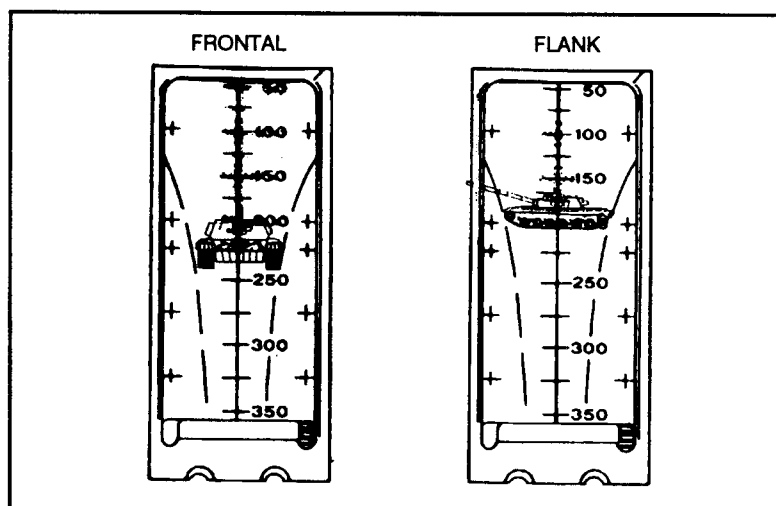
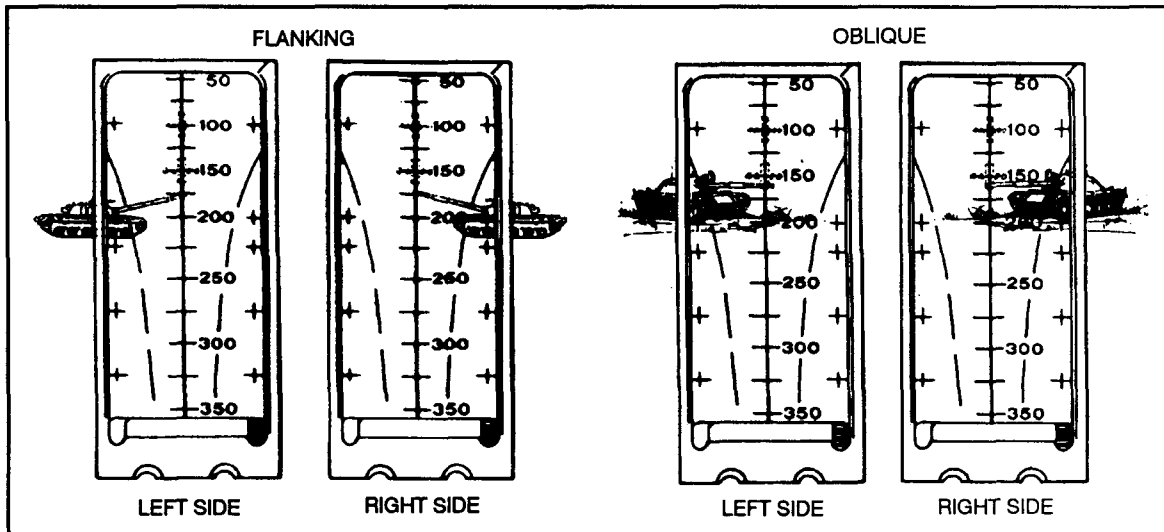
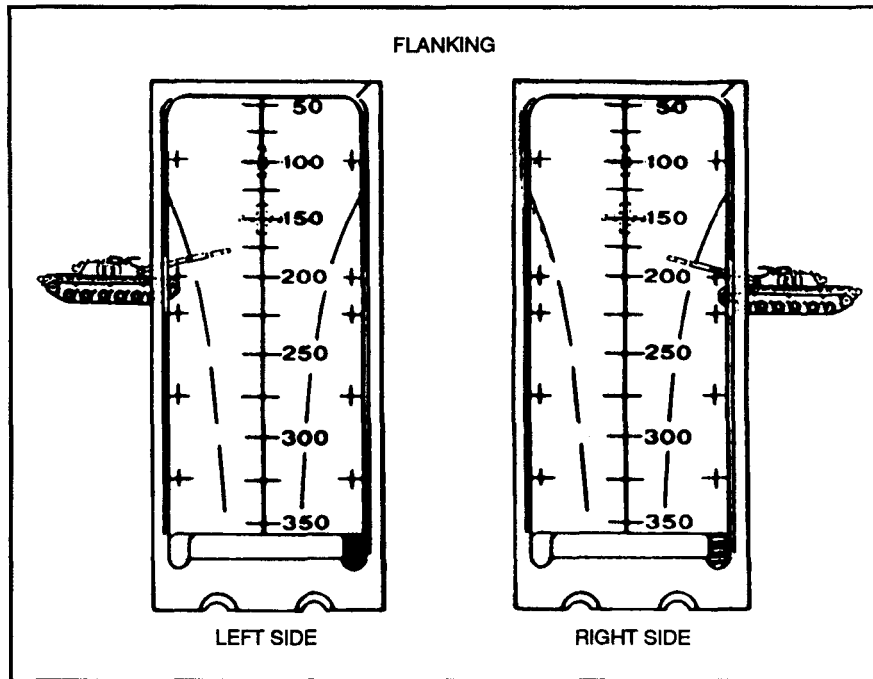

Figure 4-5. Sight picture, stationary targets, M72-series LAW.
Figure 4-6. Sight picture, slow-moving targets, M72-series LAW.
Figure 4-7. Sight picture, fast-moving targets, M72-series LAW.
(1) **M72-Series LAW.** *Stationary targets* include those moving directly toward or away from the firer. Place the correct vertical range line in the center of the target (Figure 4-5). *Slow-moving targets* include those with an estimated speed of 5 mph or slower, or those moving in an oblique direction. Place either the left or right lead cross mark on the vehicle's center of mass (Figure 4-6, page 4-4). *Fast-moving targets* include those with an estimated speed of more than 5 mph. Place either the left or right lead cross mark on the leading edge of the vehicle (Figure 4-7, page 4-4).